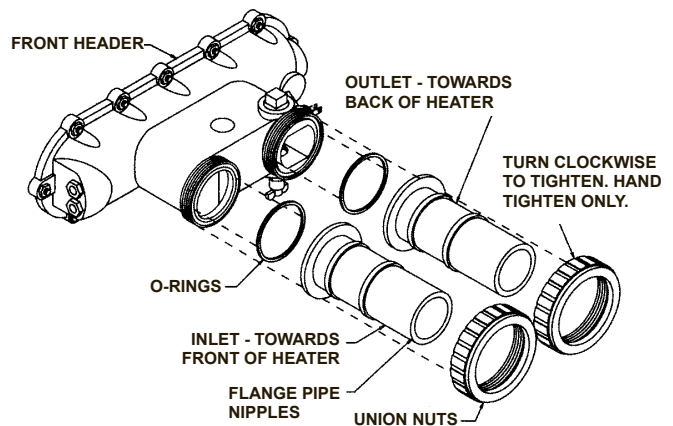

Figure 22: Pipe Nipple Installation
1. The H-Series heater is equipped with CPVC SCH-80 flanged pipe nipples, union nuts, neoprene O-rings for use with 2" pipe connections. Figure 22 shows the method for installing these parts on the front header.